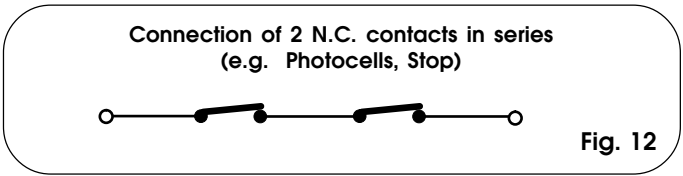

Fig. 12
**N.B. If two or more devices have the same function (opening or closing), they should be connected to each other in series (see fig. 12). N.C. contacts must be used.**
**STP - Terminal 11 plus a negative = STOP contact (N.C.):** any device (e.g. a push-button) which, by opening a contact, is able to stop gate movement. To install several STOP devices, connect the N.C. contacts in series (see fig. 12).